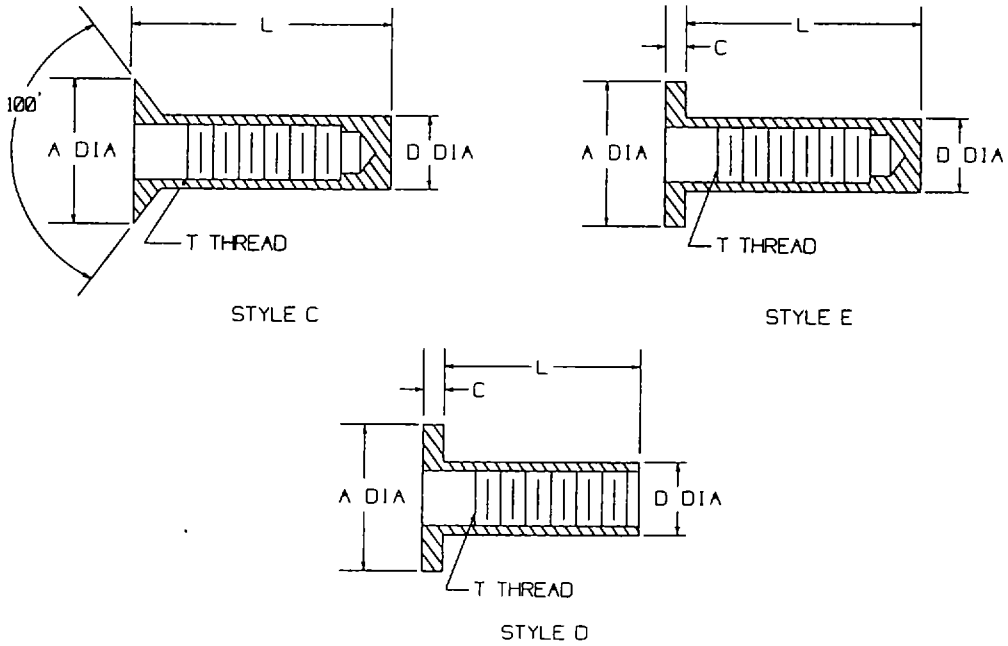

Figure 5-4. Types of Rivnuts
b. **Rivnut Installation and Removal.** Rivnuts (threaded inserts) are tubular rivets with internal threads and are used throughout the shelter wherever blind threads are required. The types of rivnuts used in the shelter are shown in figure 5-4 and described in Table 5-3.